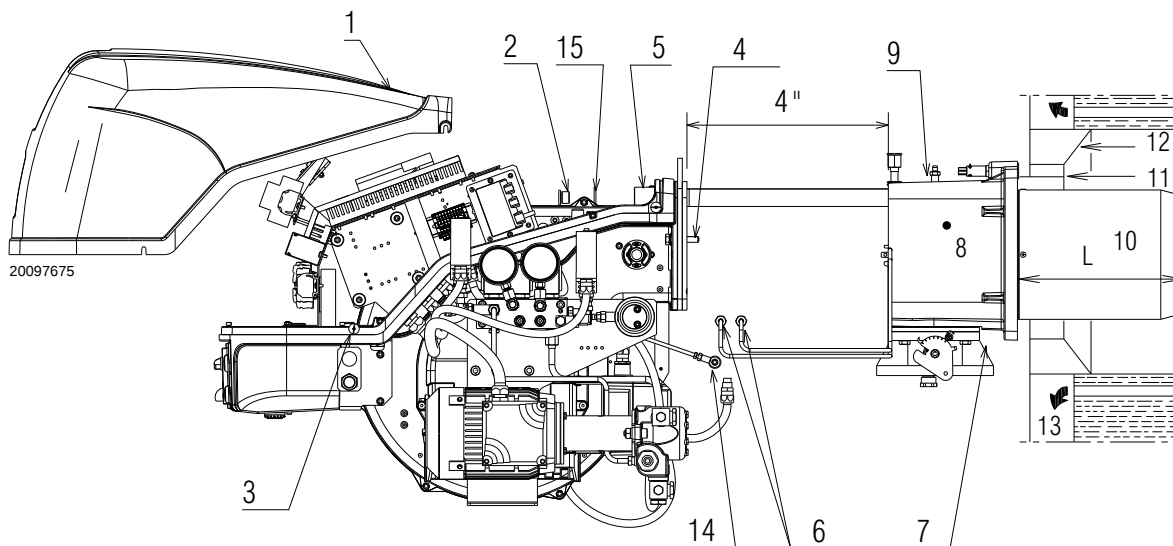
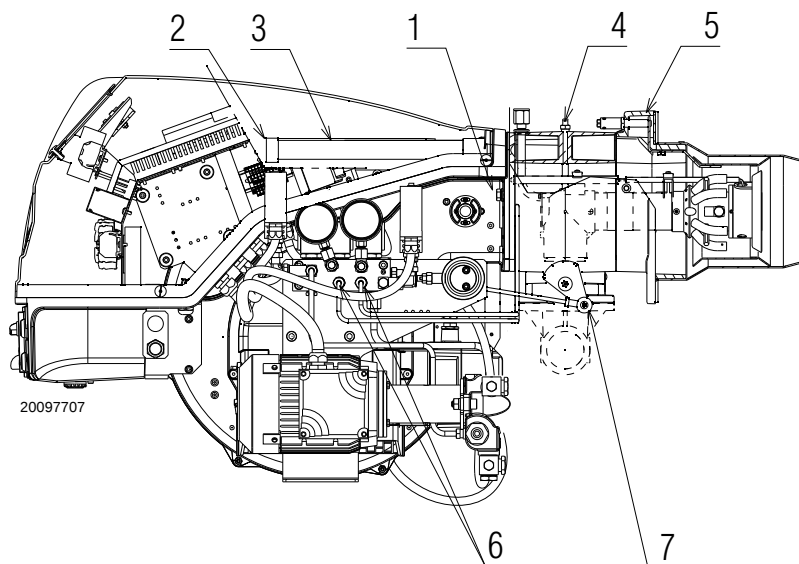

Fig. 12
Fig. 19
This protective insulation must not compromise the extraction of the blast tube. For boilers having a water-cooled front, the insulation 11)-12) (Fig. 12) is not required unless it is required by the boiler manufacturer.
Detach the combustion head from the burner, (Fig. 12):
- Refit the burner to the slide bars 3)(Fig. 19) at approximately 4" from the sleeve 4) - burner positioned as shown in (Fig. 12, page 18) - insert the ignition electrode cables.
- Slide the burner up to the sleeve so that it is positioned as shown in Fig. 19;
- refit screws 2)(Fig. 19) on slide bars 3) including the safety plate 15)(Fig. 12, page 18);
- connect the oil pipes again by screwing on the two connectors 6)(Fig. 12, page 18).